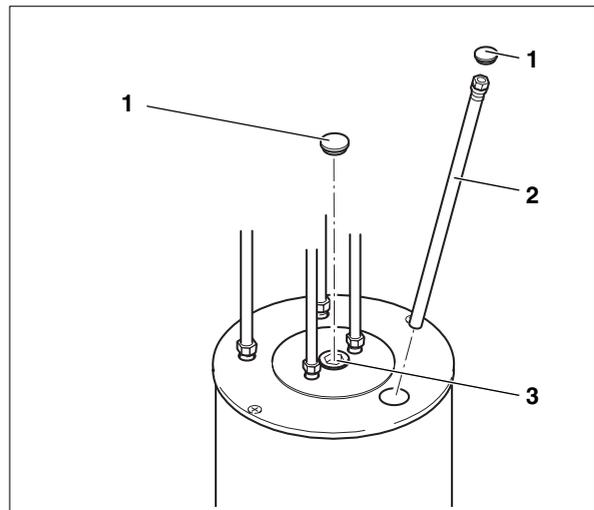

Fig. 10 Removal of magnesium anode rod
- Close off cold feed (EK), and drain tank. Open a faucet at a higher location to vent the tank.
- Remove plastic plugs (Fig. 10, **Item. 1**) from the magnesium anode rod and clean-out opening.
- Unscrew the magnesium anode rod (Fig. 10, **Item. 2**) from the tank using a pipe wrench.
- Install magnesium anode rod (Fig. 10, **Item. 2**). Use quality teflon tape for sealing. Wrap generously.
- Put plastic plugs (Fig. 10, **Item. 1**) back in place on magnesium anode and inspection plug.